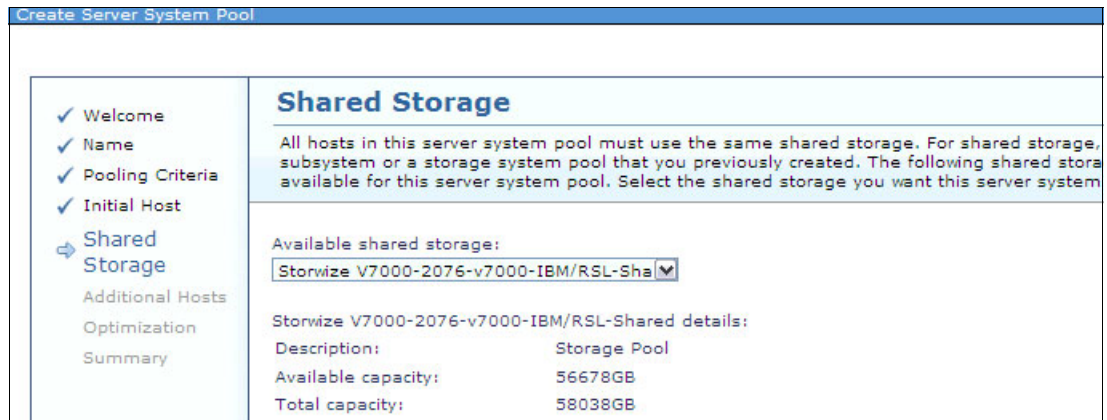

Figure 9-98 Assigning a storage system to the server system pool
7. Select the shared storage system that you want to assign to the server system pool as shown in Figure 9-98, then click **Next**.